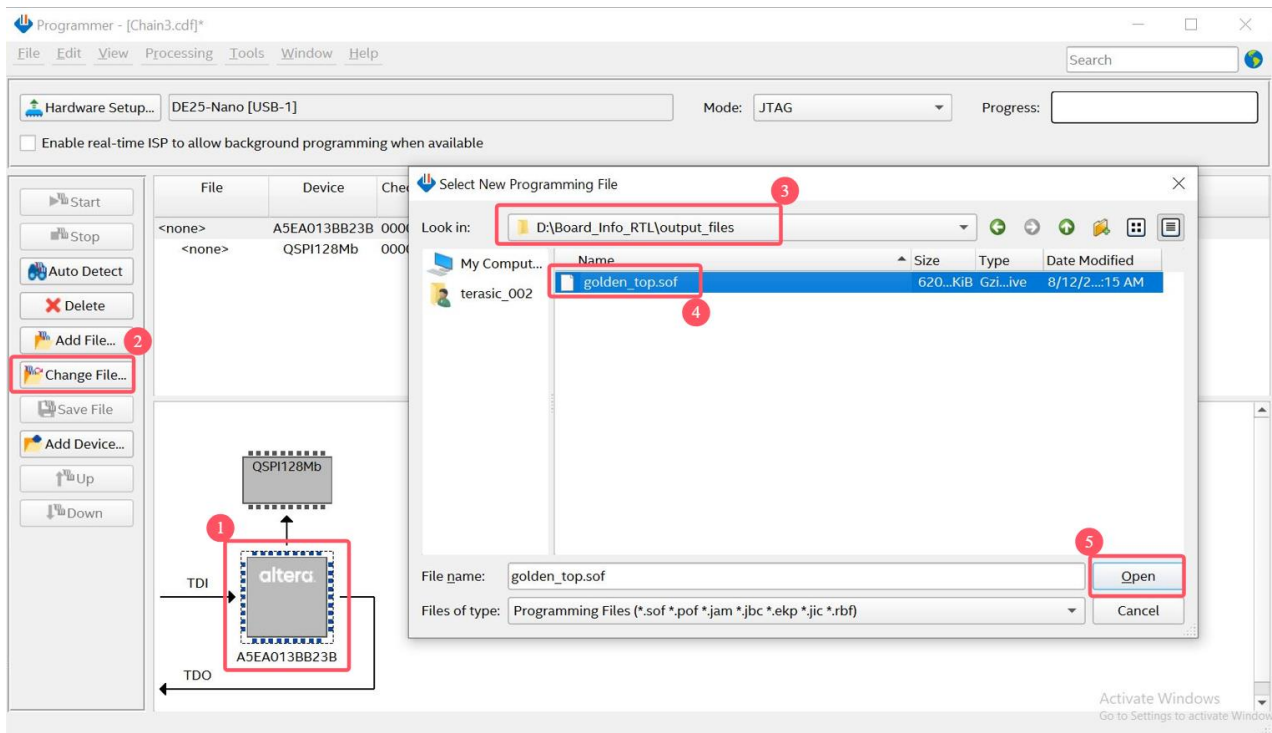

Figure 4-6 Select golden_top.sof file
7. Click the FPGA device, then click **Change File** button to open the **Select New Programming File** window. Browse to select golden_top.sof in the **Select New Programming File** window as shown in **Figure 4-6**.